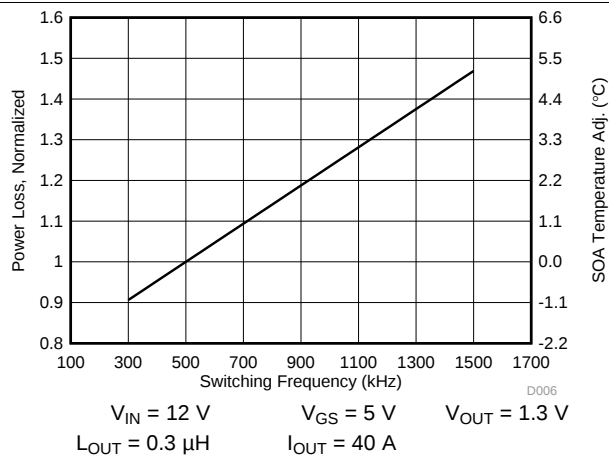

Figure 4. Normalized Power Loss vs Switching Frequency
- Normalized power loss for switching frequency ≈ 1.21 (Figure 4)
- SOA adjustment for switching frequency $\approx 2.34^\circ\text{C}$ (Figure 4)